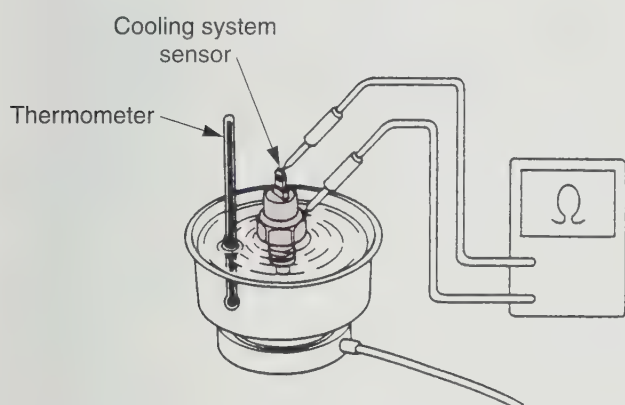

Figure 17-25. Method of testing a cooling system sensor. As the water heats, the sensor will lose resistance. (Honda Motor Co., Ltd.)
2. Suspend the sensor in a pan of coolant (50-50 mixture) over an electric heating element, **Figure 17-25**.